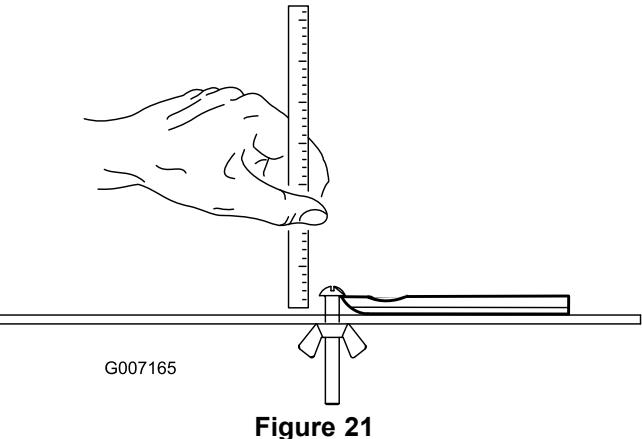

Figure 21
**Note:** All bedknife service limit measurements reference the bottom of the bedknife (Figure 21)